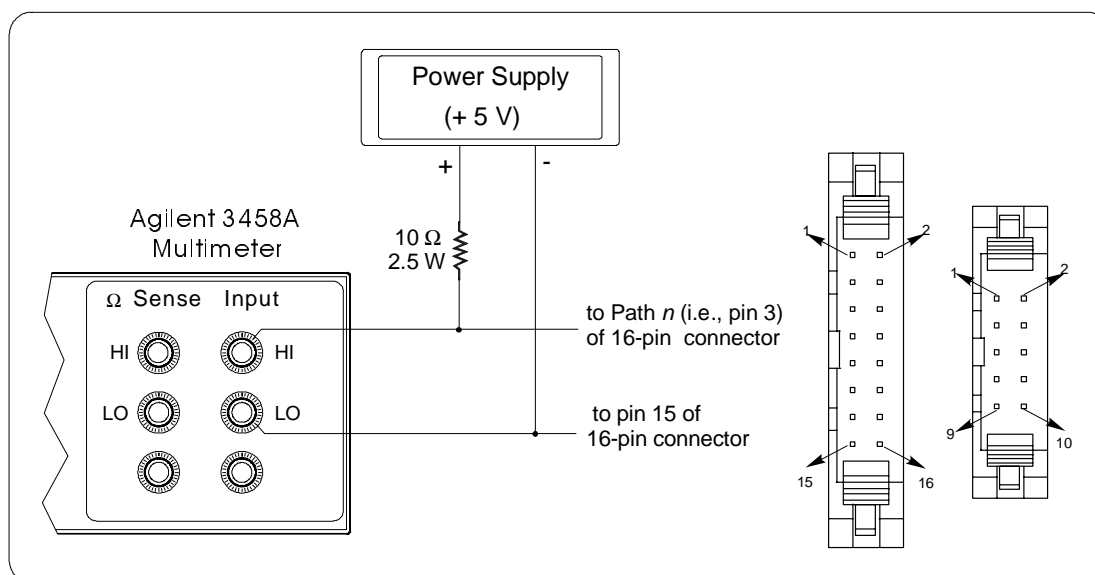

Figure 2-3. Drive Circuitry Output Voltage Test
3. Connect the DC Power Supply (Agilent 6237B), the DMM (Agilent 3458A) and the 10 ohm resistor as shown in Figure 2-3. Set the DC power supply to deliver + 5 Vdc.
- Connect DMM HI to pin 3 of Switch Group 0 connector, and connect the DMM LO to pin 15 of the same connector as shown in Figure 2-3. See Figure 2-1 for the connector location and pinout information. See Table 2-3 for the maps of channel numbers to connector pins.